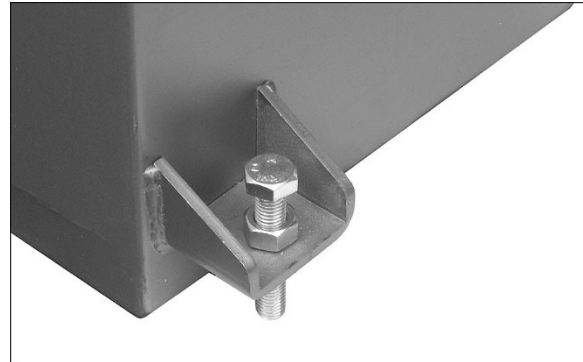

Figure 5-1: leveling screws
5. Install four leveling screws with hex nuts (provided) into threaded holes on base flanges (Figure 5-1). Place a level on table surface and check side-to-side and front-to-back. Adjust leveling screws until machine is level in both directions, then tighten nuts.